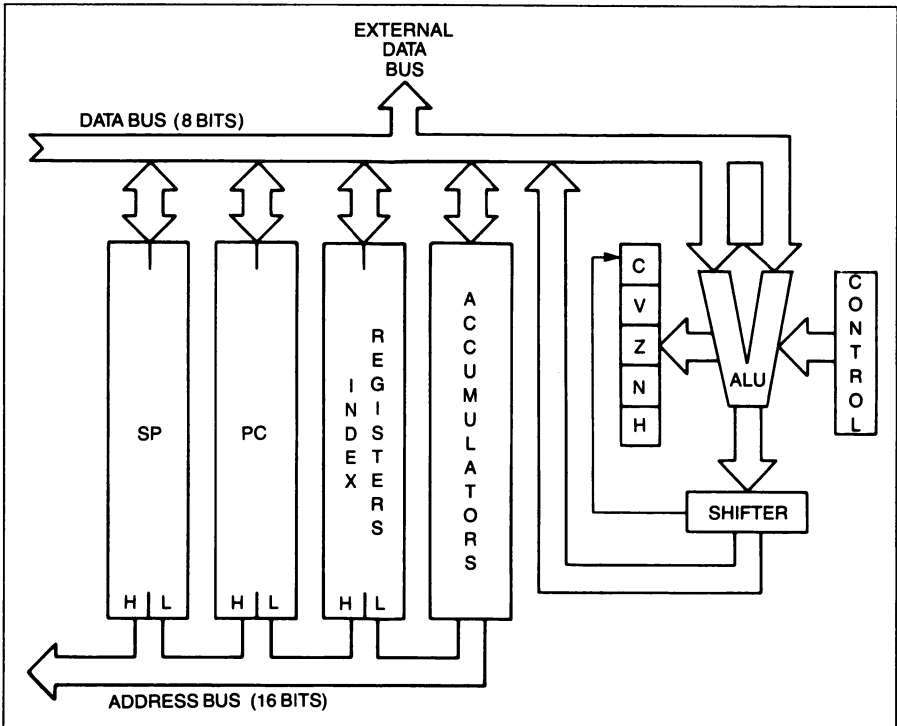
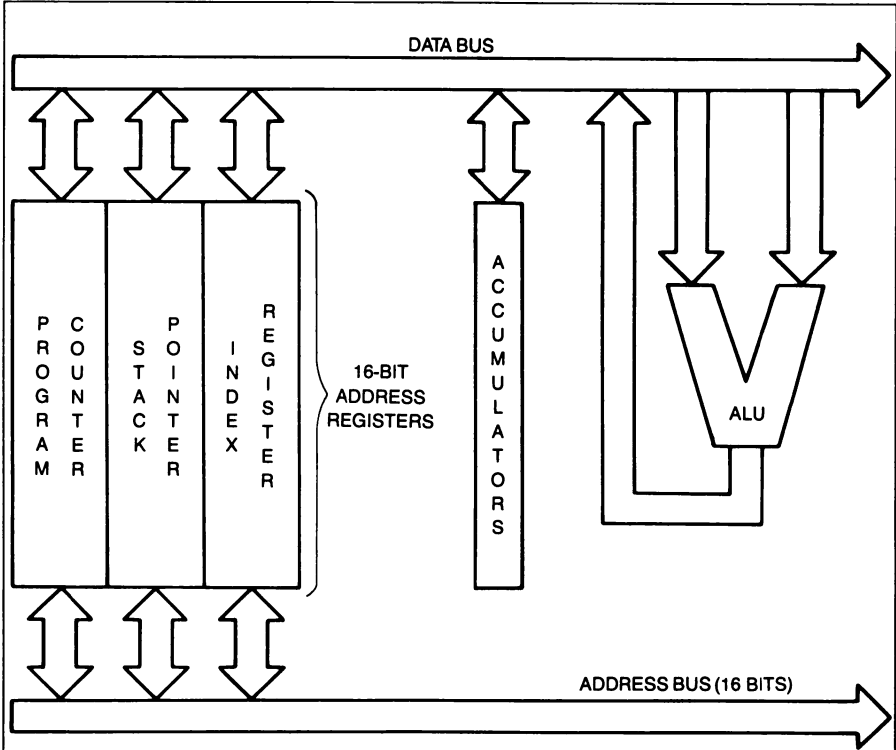
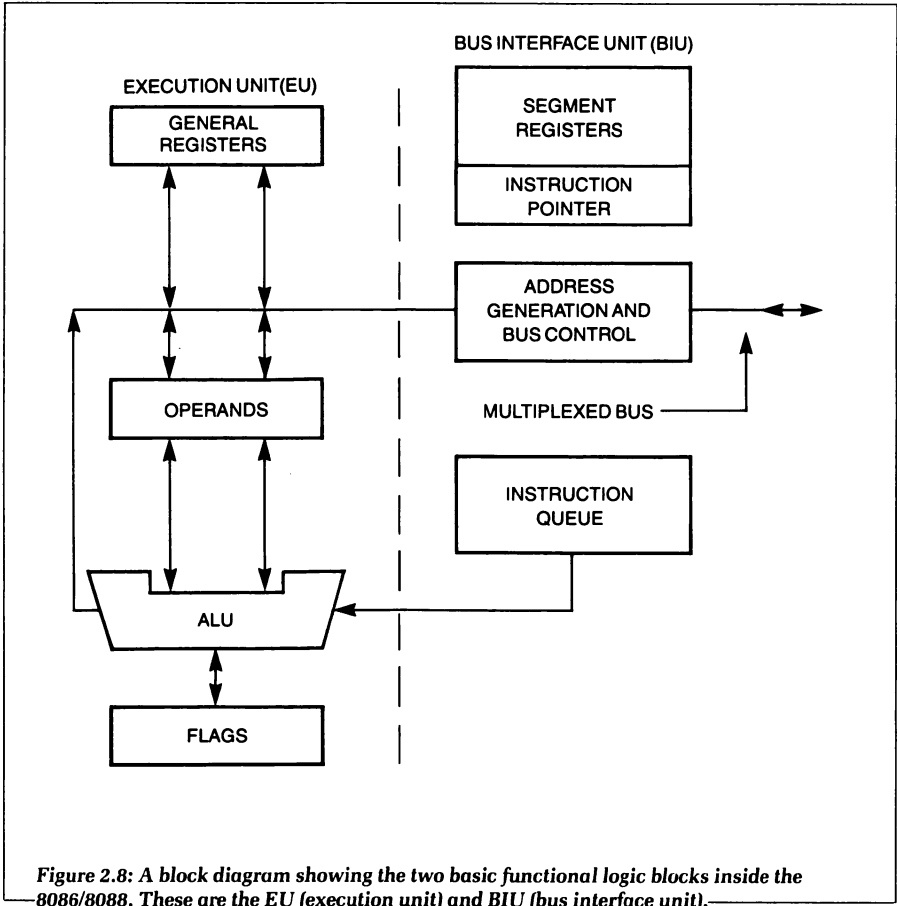

Figure 2.2: This diagram shows the general internal architecture of a “standard” microprocessor.
Figure 2.4: The PC, SP, and index registers are common microprocessor registers used in forming a complete system address.
Figure 2.8: A block diagram showing the two basic functional logic blocks inside the 8086/8088. These are the EU (execution unit) and BIU (bus interface unit).
Let us now examine Figure 2.2 and discuss the general internal architecture of a microprocessor. In addition, we will show you how the 8086 and 8088 implement their specific internal architectures, and we will point out the similarities and differences to the general case (shown in Figure 2.2).
Figure 2.2 shows a diagram of a standard architecture of a general microprocessor. Let's examine the different modules in this figure. The *control box* (on the right of the illustration) represents the control unit that synchronizes the system hardware and timing.
Referring back to Figure 2.2, the *status* or *condition code register* appears to the left of the ALU. The job of this register is to store the internal conditions of the microprocessor in codes. The condition codes are sometimes referred to as *condition flags*. An example of this is a bit that indicates when the result of an operation performed by the ALU leaves all accumulator bits equal to 0. When this occurs, the condition flag called the *zero flag* is set to true.
Moving to the left in Figure 2.2, we find the address registers. These registers are used for the storage of addresses. They are connected to the system address bus. Whenever the CPU executes a program, the address registers are combined logically to form a complete system address. Some of the power of a microprocessor comes from its ability to combine the address registers in special ways to form the system address present on the address bus. Chapter 3 describes in detail how the address registers of the 8086/8088 can be logically combined to form a single address. Figure 2.4 shows
three common address registers contained in a microprocessor: the program counter, the stack pointer, and the index register. Note that the registers also appear in Figure 2.2. Let's discuss them.
Indexing is a memory-addressing facility used to access blocks of data in the memory, using only a single instruction. This facility is not available in all microprocessors. It is, however, available with the 8086/8088. An *index register* typically contains a displacement, which is automatically added to a base value when forming an address. In short, indexing is used to access a word within a block of data. Now that we have discussed all the elements in Figure 2.2, let's move on and discuss the stack.
Figure 2.8 shows a functional block diagram of the 8086/8088. This diagram shows that there are two main functional logic blocks in the device: the BIU (bus interface unit) and the EU (execution unit). In the general block diagram back in Figure 2.2, both of these functions were grouped into a single control block. Let us examine what they do.
The other functional hardware section of the 8086/8088 shown in Figure 2.8 is the execution unit. This unit contains a 16-bit arithmetic logic unit. It maintains the condition flags of the CPU. The EU also manipulates the general registers of the CPU. All registers in the EU are 16 bits wide. This is true of both the 8086 and 8088.
In the description of the general block diagram of a microprocessor shown in Figure 2.2, we discussed the operation of the program counter. In the 8086/8088 the program counter is replaced by the instruction pointer (IP) register. The IP register is updated by the BIU to point to the address of the next instruction. Programs do not have direct access to the instruction pointer; but, during execution of a program, the IP can be modified or saved and restored from the stack.